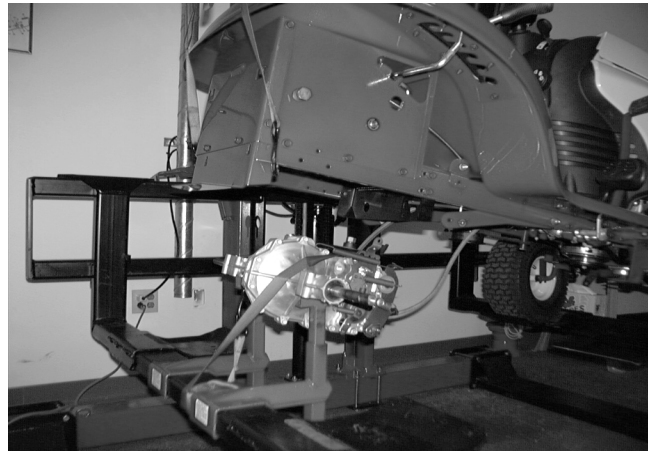

FIGURE 16.
24. Slowly lower the hydrostatic transmission from the tractor. See figure 16.